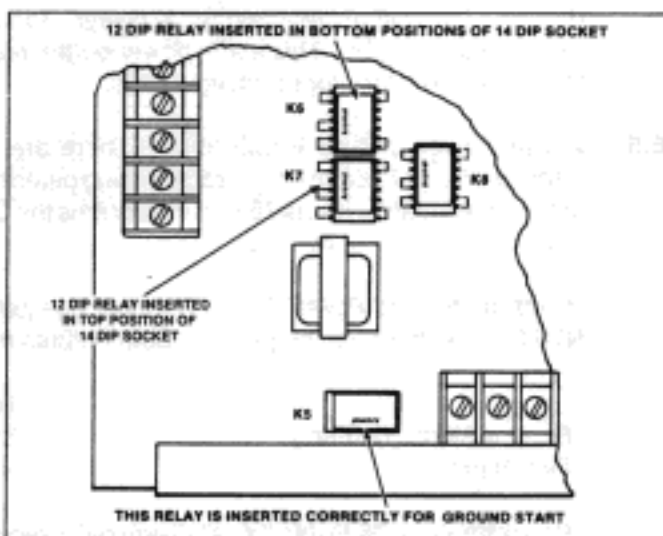

Figure 6. Plug-in Relay Installation
**7.3 Installation** - The plug-in relays (Radionics model D136) are packaged as a 12 DIP. The sockets (K5-K8) are a 14 DIP package. The sockets are designed so relays can be inserted using either the top or the bottom positions of the package as shown in Figure 6.